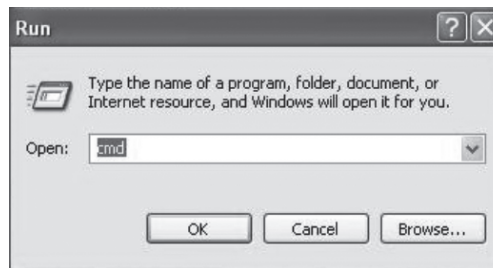

Figure 6-10 Run Window
4. Type in cmd in the prompt Run window as Figure 6-10 and click OK.